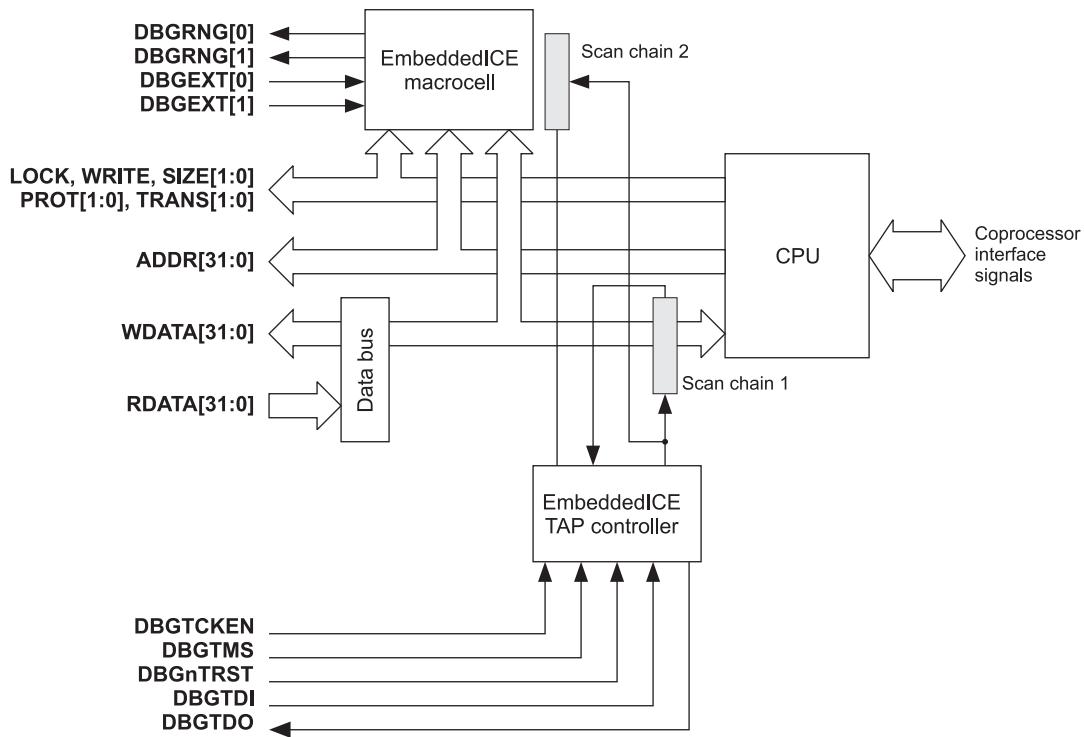

Figure 1-2 ARM7TDMI-S block diagram
- the ARM7TDMI-S block diagram is shown in Figure 1-2